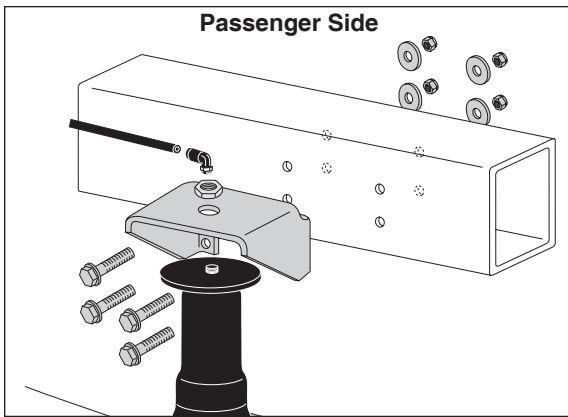

Figure 7
IMPORTANT: This kits mounts behind the axle. Figure 1 shows the installation for the driver side only. Refer to Figure 7 for the passenger side installation.
- g. Drill the remaining hole out to a $\frac{3}{8}$ " diameter and install a $\frac{3}{8}$ " washer head bolt (N), a large flat washer (M), and a nyloc nut (K).
3. PASSENGER SIDE INSTALLATION: Install the passenger side assembly in the same manner, with the exception to the forward upper hole location. Drill this hole to a $\frac{3}{8}$ " diameter and install a $\frac{3}{8}$ " washer head bolt (N), a large flat washer (M), and a nyloc nut (K). No self tapper is used on the passenger side. Refer to Figure 7.